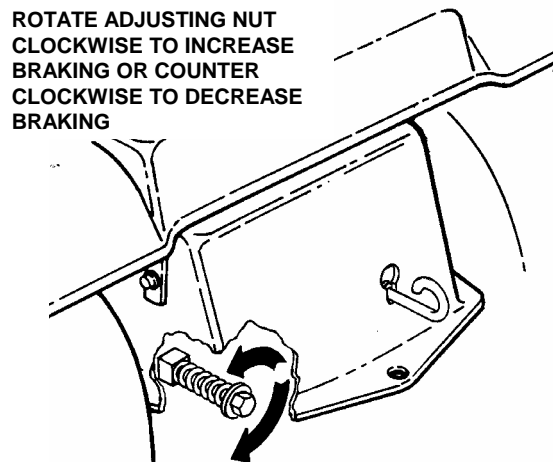

FIGURE 4.9
2. Locate brake adjustment nut underneath the left side at the rear of tractor. See Figure 4.9.